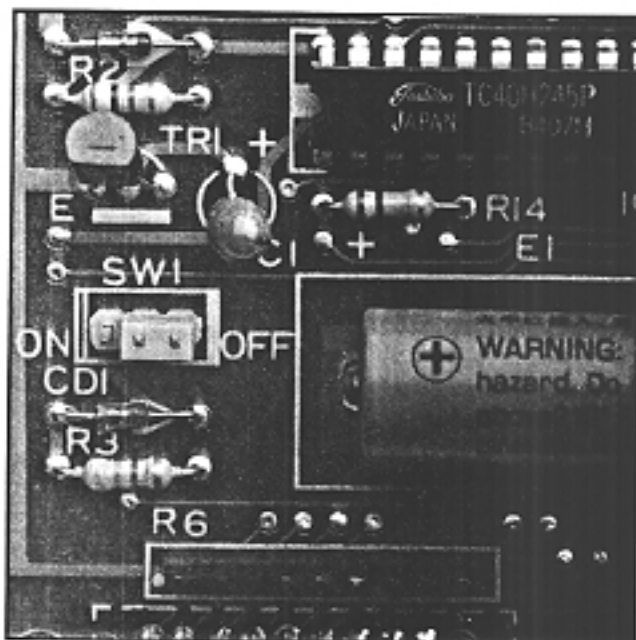
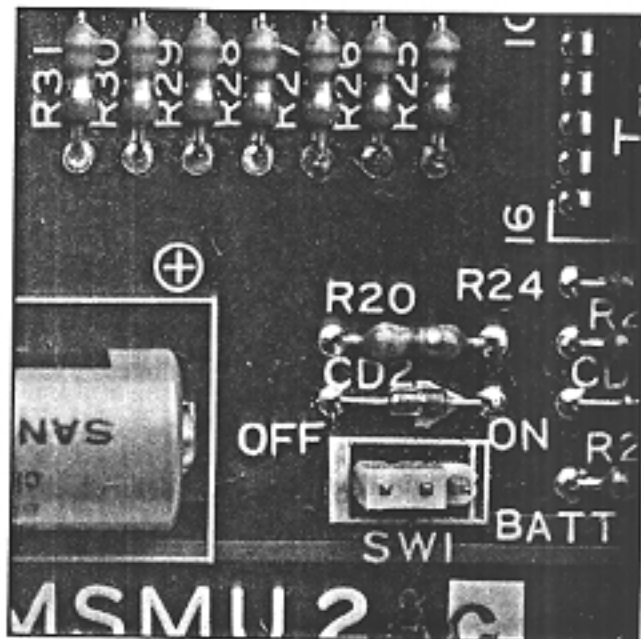

FIGURE 1—MCDU BATTERY STRAP
FIGURE 2—MSMU BATTERY STRAP
02.05 Whenever storing or shipping an MCDU or MSMU always ensure that the battery strap is in the OFF position. See Figure 1 for the MCDU and Figure 2 for the MSMU.